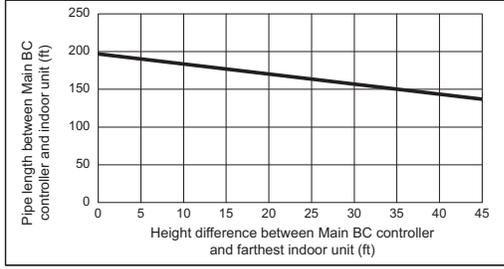

Fig. 2
*1. When the piping length or the vertical separation exceeds the limit specified in Fig. 2, connect a sub BC to the system. The restriction for a system with a sub BC connection is shown in Fig. 3. When a given system configuration falls within the shaded area in Fig. 3, increase the size of the high-pressure pipe and the liquid pipe between the main BC and sub BC by one size. The maximum liquid branch pipe diameter is $\phi 19.05$. If a given system already has a $\phi 19.05$ -pipe between the main BC and sub BC, there is no need to increase the pipe size. When using P12, P15, P18, P36, or P48 model of indoor units, increase the size of the liquid branch pipe between the sub BC and indoor unit by one size. When using indoor models P54 or larger, the restrictions shown in Fig. 2 cannot be exceeded.
(3) System that requires more than 16 BC controller ports or with multiple BC controllers <Heat source unit P144 model or above>